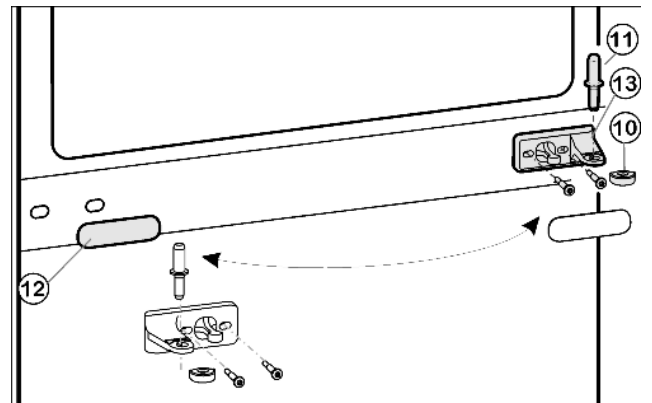
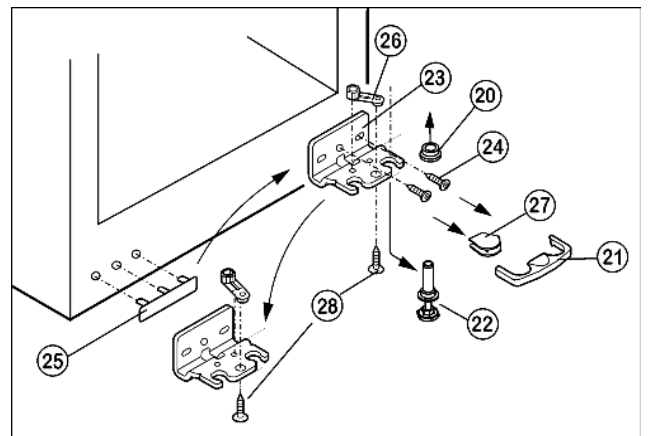

Fig. 5
Fig. 6
- ▶ Remove the plastic cap Fig. 5 (10).
- ▶ Draw the middle bearing pin Fig. 5 (11) out of the turn hinge and lower door.
- ▶ Carefully detach the cover panel Fig. 5 (12).
- ▶ Unscrew the middle turn hinge Fig. 5 (13), turn it 180° and transfer it to the new hinge side.
- ▶ Turn the cover panel Fig. 5 (12) 180° and snap it into place on the new handle side.
- ▶ Draw the safety lock Fig. 6 (21) forwards for removal.
- ▶ Remove the cover Fig. 6 (27).*
- ▶ Turn the adjustable-height foot Fig. 6 (22) all the way in.
- ▶ Pull out the bearing pin Fig. 6 (22) downwards and forwards. In so doing, pay attention to the hinge bush Fig. 6 (20).
- ▶ Unscrew the turn hinge Fig. 6 (23)(2 Torx 25) Fig. 6 (24).
- ▶ Unscrew the bearing part Fig. 6 (26)(1 Torx 25) Fig. 6 (28), transfer it to the opposite hole in the turn hinge and screw it down again.
- ▶ Carefully lift off and transfer the cover Fig. 6 (25) on the handle side.
- ▶ Screw down the turn hinge Fig. 6 (23) on the new hinge side, possibly with the aid of a cordless screwdriver, through the outer oblong hole and round hole.
- ▶ Place the cover Fig. 6 (27) on the opposite side.*
- ▶ If necessary, align the doors to the appliance housing by way of the two oblong holes in the lower turn hinge Fig. 6 (23) and middle turn hinge Fig. 5 (13), then tighten the screws.
- ▶ The safety lock (21) has to engage on the side of the turn hinge in order that the bearing pin and thereby the door is secured.
- ▶ Refit the safety lock (21) on the turn hinge.
- ▶ Put on the hinge bush Fig. 6 (20).
- ▶ Place the lower door from above onto the lower bearing pin Fig. 6 (22).
- ▶ Place the plastic cap Fig. 5 (10) back onto the middle turn hinge Fig. 5 (13).
- ▶ Place the middle bearing pin Fig. 5 (11) in the lower door, on the new hinge side, through the middle turn hinge Fig. 5 (13).
- ▶ Place the upper door on the middle bearing pin Fig. 5 (11).